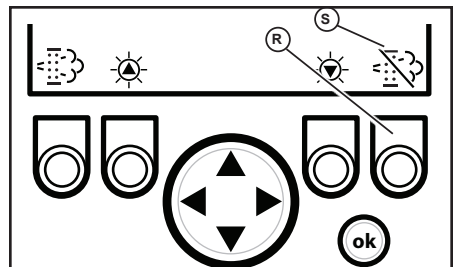

Fig. 47 - Reset Regeneration Inhibit button
To temporarily inhibit reset regeneration, hold down button (R, Fig. 47) until the strike-through in the Reset Regeneration symbol (S) turns to red.
NOTE: The stationary regeneration request screen can be temporarily dismissed by pressing the reset regeneration inhibit button (R, Fig. 47) for 3 seconds. Until the previous screen displays. The stationary regeneration request screen will return 1 minute after being dismissed, for as long as the request remains active.